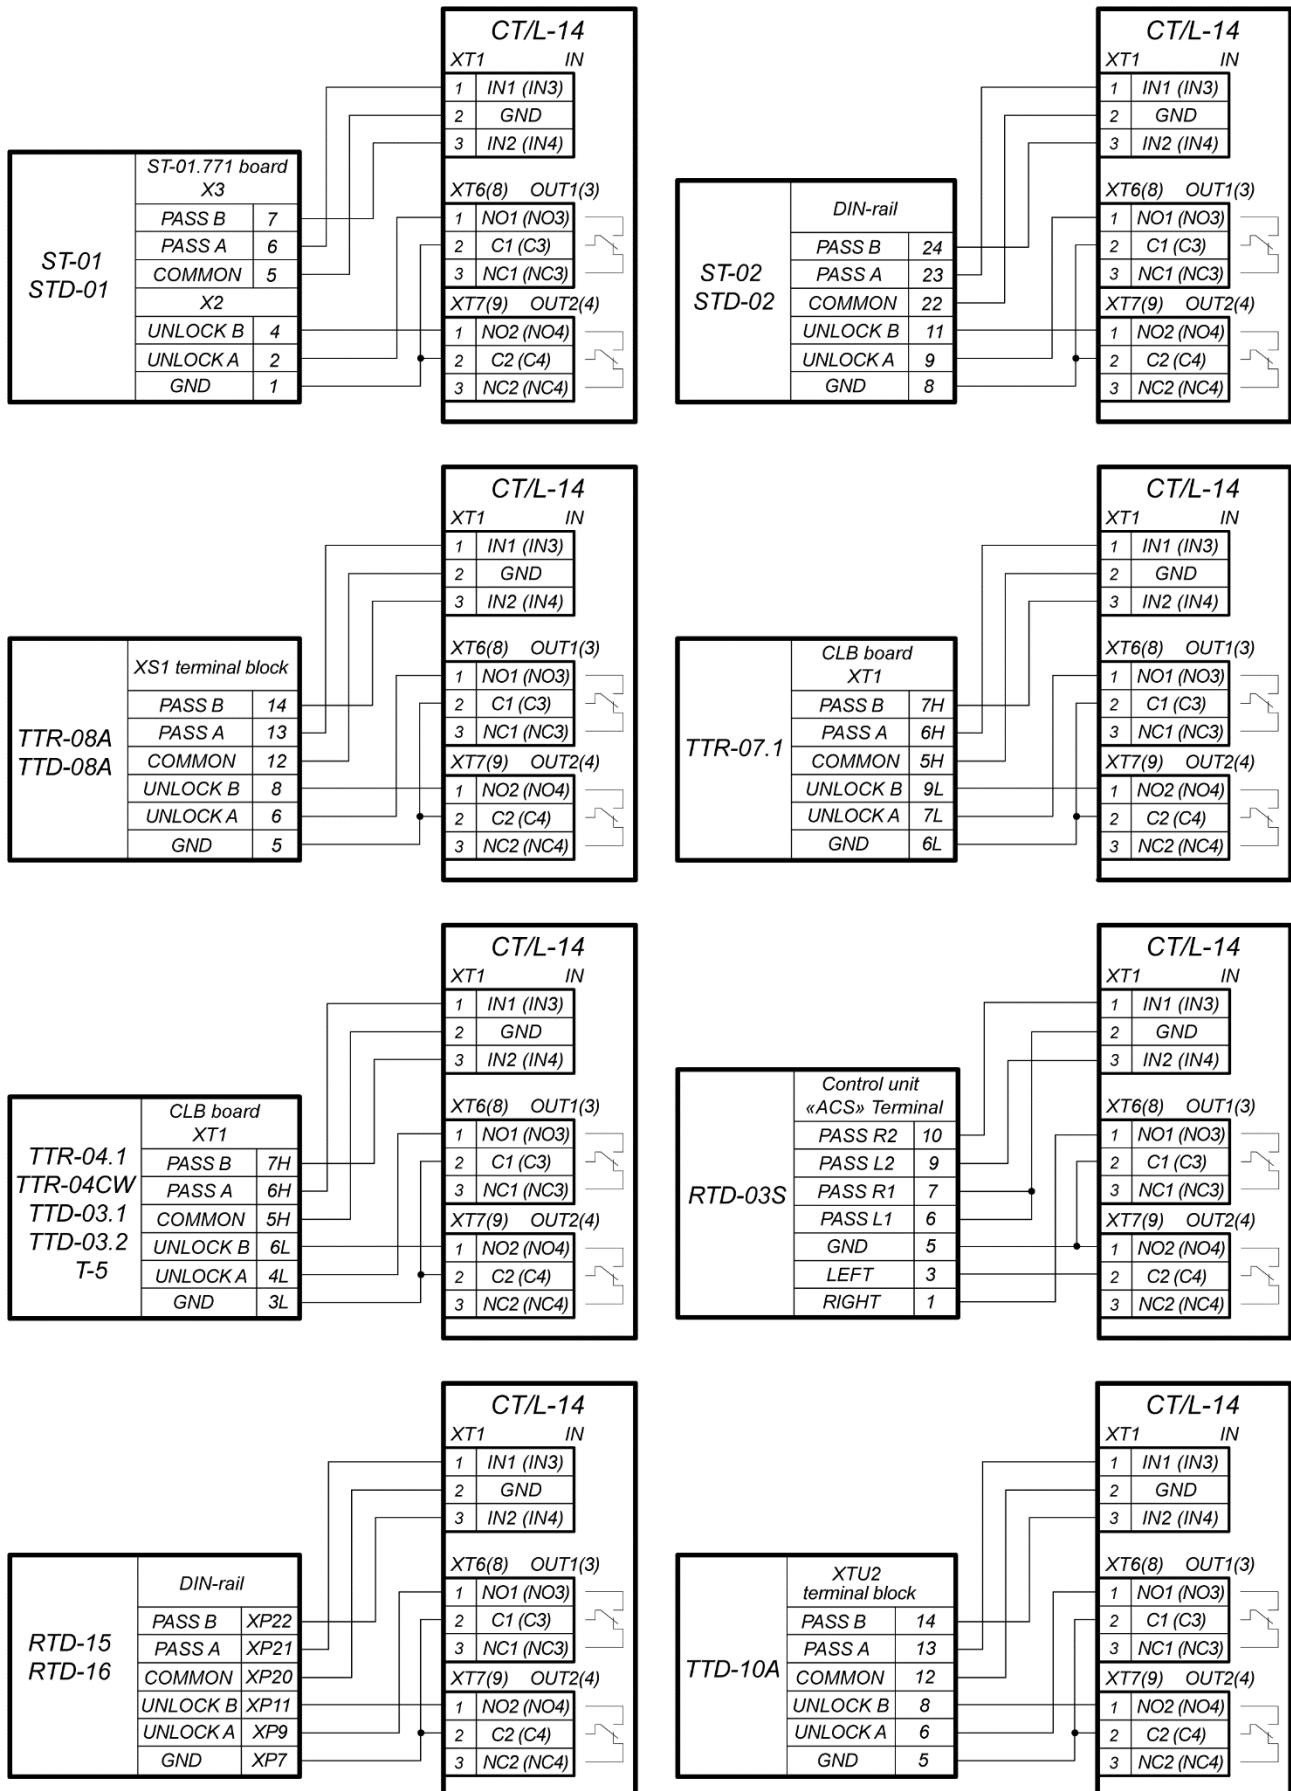

Figure 6. Connection layouts of "Turnstile control" configuration
2. Connect the turnstile (the control unit of the turnstile) #1 to **XT1**, **XT6**, **XT7** terminal blocks of the controller lower board in compliance with the layout (Fig. 6).
3. Connect the turnstile (the control unit of the turnstile) to **XT1**, **XT8**, **XT9** terminal blocks of the controller lower board in compliance with the layout (Fig. 6).